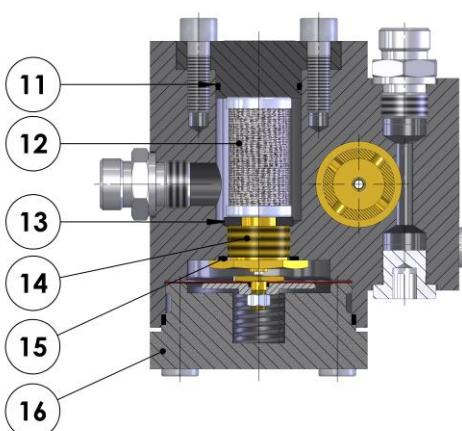
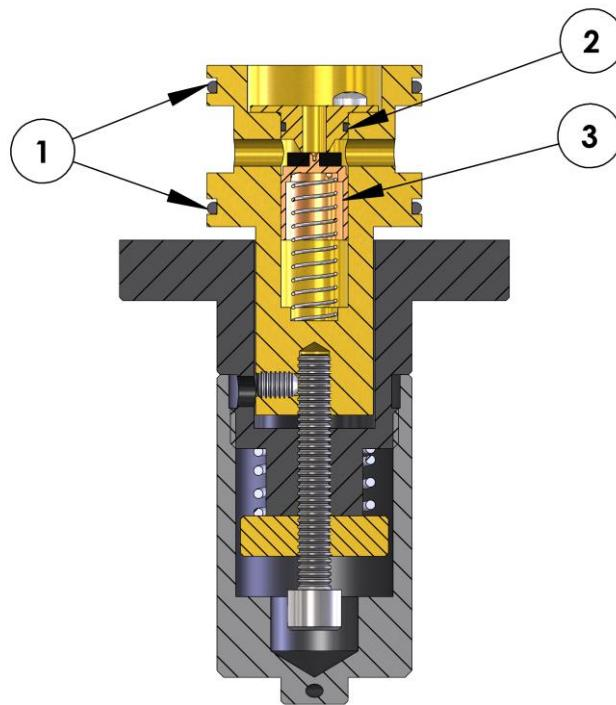

Figure 11
Figure 14
Turn the regulating valve (14) and O-ring (15), as shown in Fig. 11, into the housing of the pilot reducer (1) using a 30 mm socket wrench (max. 20 Nm).
Turn auxiliary pressure on the valve assembly (14) out of the housing of the pilot pressure regulator (1) using the ring / socket wrench 30, see figure 11
Place the assembled diaphragm in the housing (1) of the pilot regulator (see figure 11). Note: make sure that the membrane is correctly (not folded in half) placed in the recess of the housing (1). Position the spring (3) of Fig. 13 over the diaphragm plate (8) of the assembled diaphragm.
Insert the auxiliary pressure cover (1) with O-ring 2 of figure 13, into the housing (1) of figure 11. Make sure that the diaphragm is not trapped outside the recess between the housing (1) and the auxiliary pressure cover. Install four cylinder head screws (with washers) and tighten them by hand. After checking for correct assembly, secure crosswise.
Remove the four cylinder head screws and their washers. Remove the auxiliary pressure regulator (16), figure 11, with a slight prying movement, after which the composite diaphragm with spring (3) (see figure 13) can be removed.
For mounting O-rings (1) (see figure 14), lightly grease them with grease. Slide the assembly into the housing (1) (see figure 11), place washers and tighten the screws.
Remove the two screws with washers and pull the assembly out of the housing (1) with a twisting motion (see figure 11).
Remove the two Phillips screws, see figure 14. Pull the seat out of the housing by twisting it with a pair of pliers. The O-ring (2) and the valve (3) can now be accessed.
For mounting O-ring (11), lightly grease with PG65 grease. Slide the whole (see figure 11) into the house (1). Then tighten it with a spanner 27 (15 Nm).